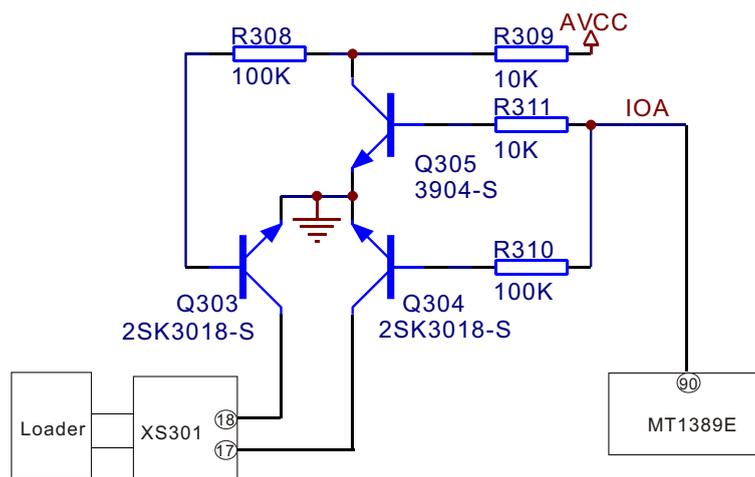

Figure 3.2.7.1 Disc identification circuit
1. Disc identification circuit is shown in the figure 3.2.7.1: